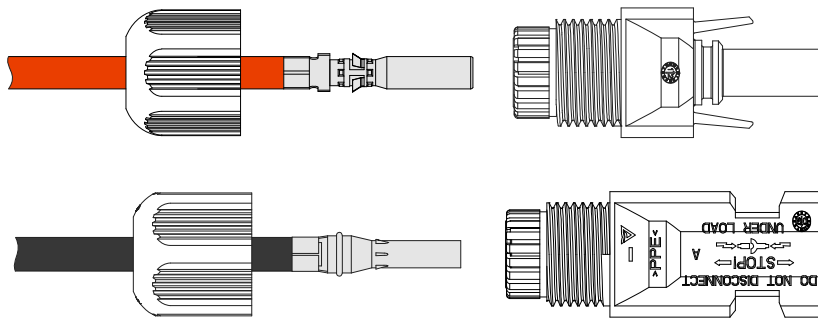

Figure3-28 Fasten the metal terminal
Step 3 Insert the positive wire and negative wire into corresponding insulation crust respectively. If there has a click sound, it means that the wire have been inserted properly, as shown in Figure3-28.